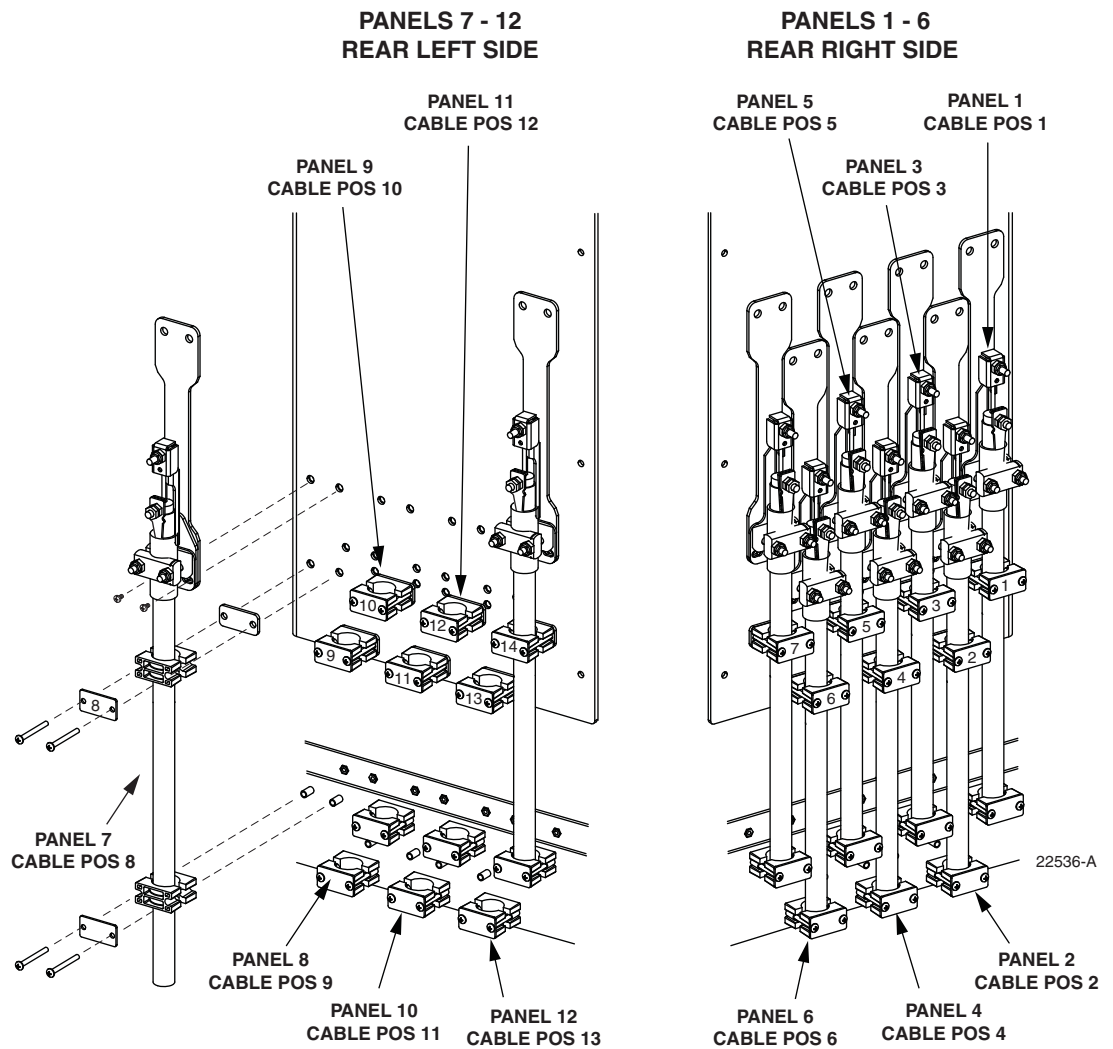

Figure 17. Secure OSP Cable to Cabinet Center Partition
5. Locate the cable clamping position specified for the connector panel as shown in Figure 17.
- **Note:** The fiber optic cables are numbered 1–14 starting with the first cable on the right side of the center partition and continuing with the first cable on the left side of the center partition (see Figure 17). The holes for the grounding cables are numbered 1–14 starting with the top opening in the weather-seal strip.